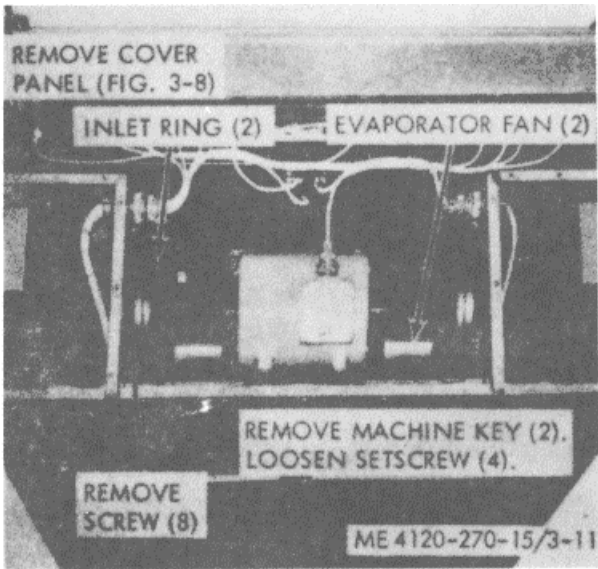

Figure 3-11. Evaporator fans and inlet ring, removal and installation.
- b. Removal. Refer to figure 3-11 and remove the inlet rings and evaporator fans.
- c. Installation. Install the inlet rings and evaporator fans in reverse order of removal as illustrated on figure 3-11.